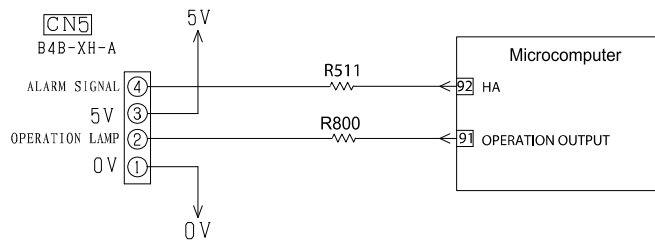

Fig.12-1
Fig.12-1 is the control circuit of run status and signal output in main PWB. The pin ② of CN5 is used to show run status and the pin ④ of CN5 is used to warn people when failure occurrence. If customer want to use this function, need to use the adapter(sold separately) to achieve it. the adapter is optional and the detail circuit refer to following circuit.